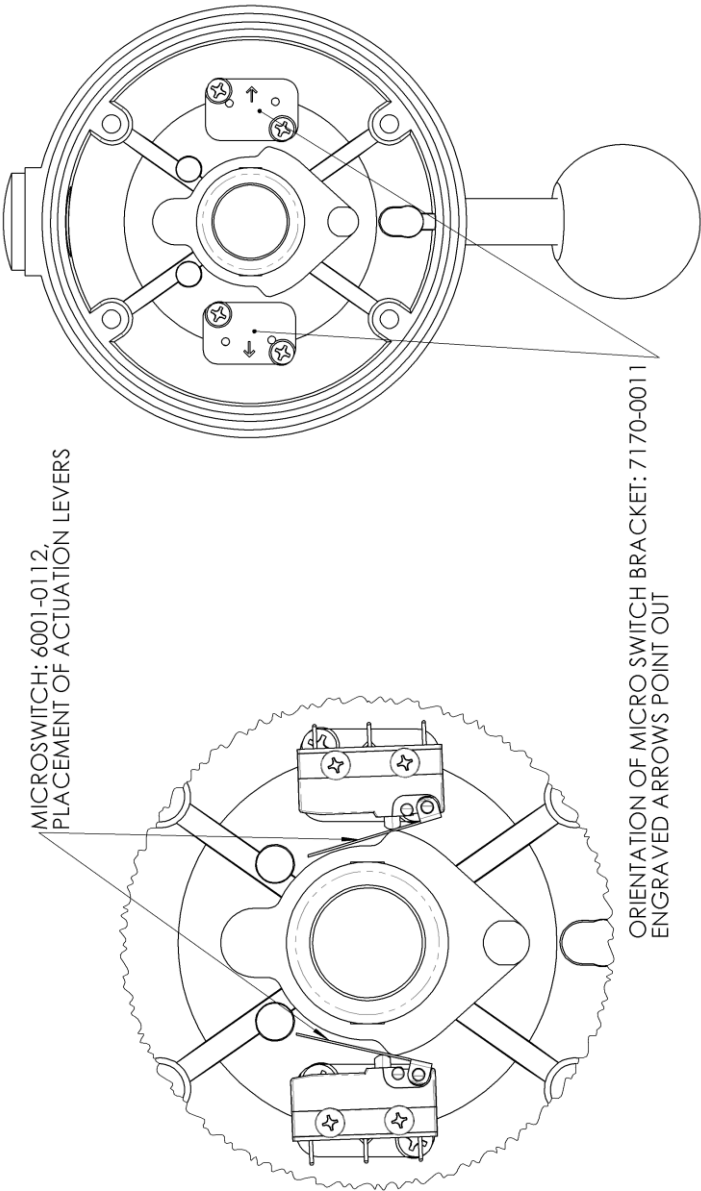

Figure 15: Placement of microswitch and microswitch mounting bracket within the housing.
4. Refer to Figure 15 and note the engraved arrow on the microswitch bracket ① is facing outwards on both sides of jog lever.
5. Apply Loctite 243(Blue) to X2 Flat head screws ④.
6. Install bracket ① with screws ④ into the jog unit housing, 7170-0001, ensuring the engraved arrow is correctly orientated.
8. Refer to Figure 15 and note the orientation of the microswitch ② for the side of the jog unit that the microswitch is being replaced on.
9. Place the microswitch ② on top of the bracket ① orientating the microswitch so the actuation lever is as shown in Figure 15. Ensure the wires are pointed towards the cable gland.